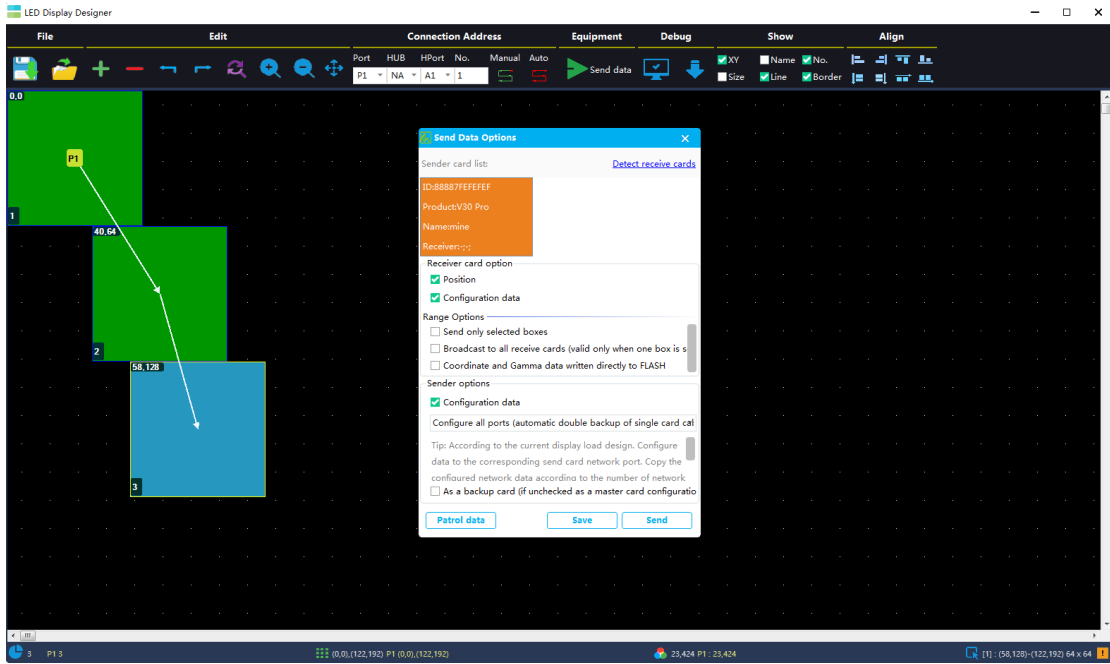

Figure 4-3-10 Send Data Options
(3) **Send Data**: After completing the connection of the led screen, click the "Send Data" button to enter the "send data options" interface. By default, the configuration data and location of the receiving card and the configuration data of the sending card are selected, and then click the "Send" button to send the system configuration files of the led screen, after observing that the display of the screen is normal, click the "Save" button to solidify the screen configuration file to the receiving card and the sending card. You can also send the file of the selected area individually, or group send a single box file , as shown in Figure 4-3-10.